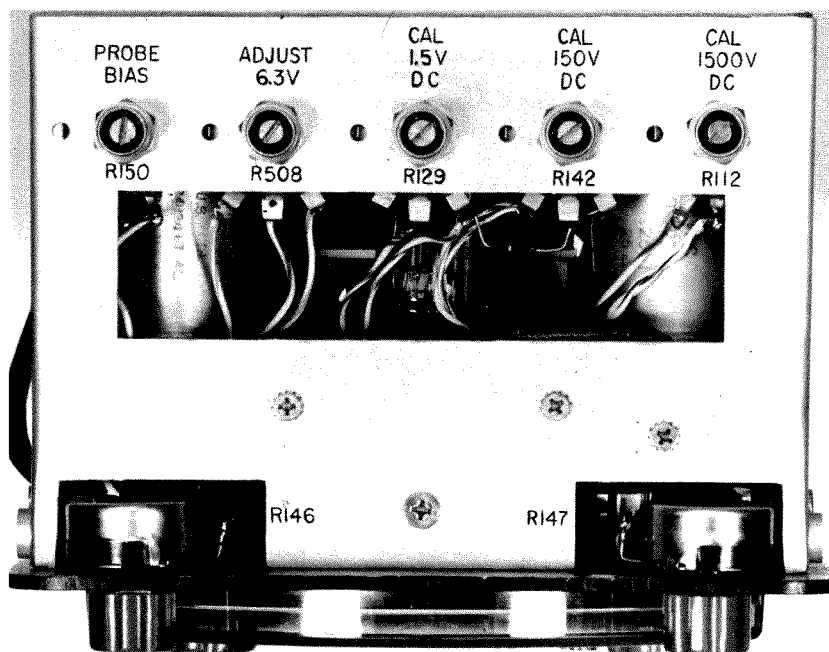

Figure 5-4. Top view of voltmeter.
5.4.2 CALIBRATION OF 1.5-, 15-, AND 150-VOLT RANGES. Turn on the instrument and allow it to warm up for 15 minutes. Set the MEASUREMENT knob to DC- and the VOLTS FULL SCALE knob to 1.5. Short-circuit the input and adjust the meter indication to zero. Turn the VOLTS FULL SCALE knob to 150, and connect a source of -150 volts dc, $\pm 0.5\%$, to the input binding posts. Adjust R142, CAL 150 DC, so that the meter indicates exactly full scale. (See Figure 5-4 for location of this control.) Disconnect the voltage, and replace the short circuit at the input. Turn the VOLTS FULL SCALE knob to 1.5 and reset the zero, if necessary. Then connect -1.5 volts dc, $\pm 0.5\%$, to the input binding posts. Adjust R129, CAL 1.5 DC, so that the meter indicates exactly full scale. There is some slight interaction between these two controls, so a recheck of the calibration at -150 volts as de-